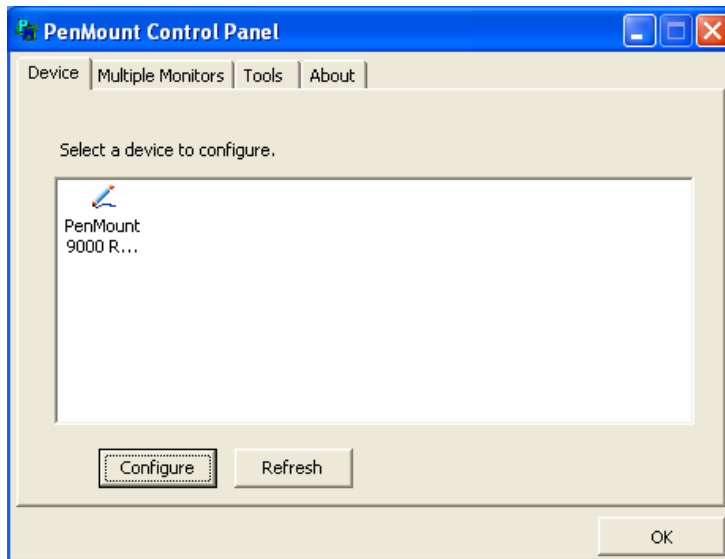

Figure 5-19: Configuration Screen
Step 5: The configuration screen in **Figure 5-19** appears.
Step 6: Double click the PenMount 9000 icon as shown in **Figure 5-19**.